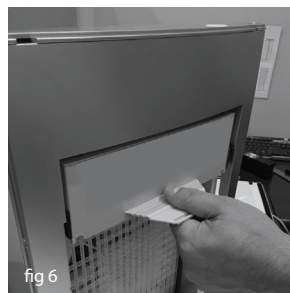

fig 6
- Slide the new main filter into place. (fig 6) Secure the main filter with the two screws.